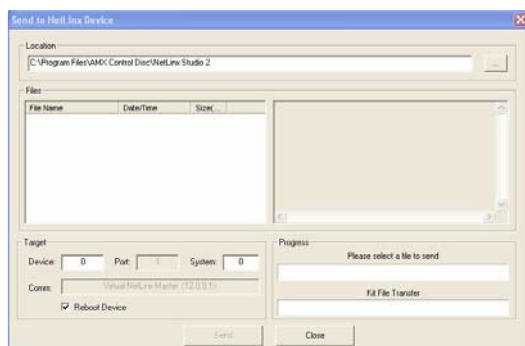

FIG. 107 Send to NetLinx Device dialog window
7. Select **Tools > Firmware Transfers > Send to NetLinx Device** from the main menu to open the *Send to NetLinx Device* dialog (FIG. 107). Verify that the panel's System and Device number values match those values listed within the System folder in the **OnLine Tree** tab of the Workspace window.